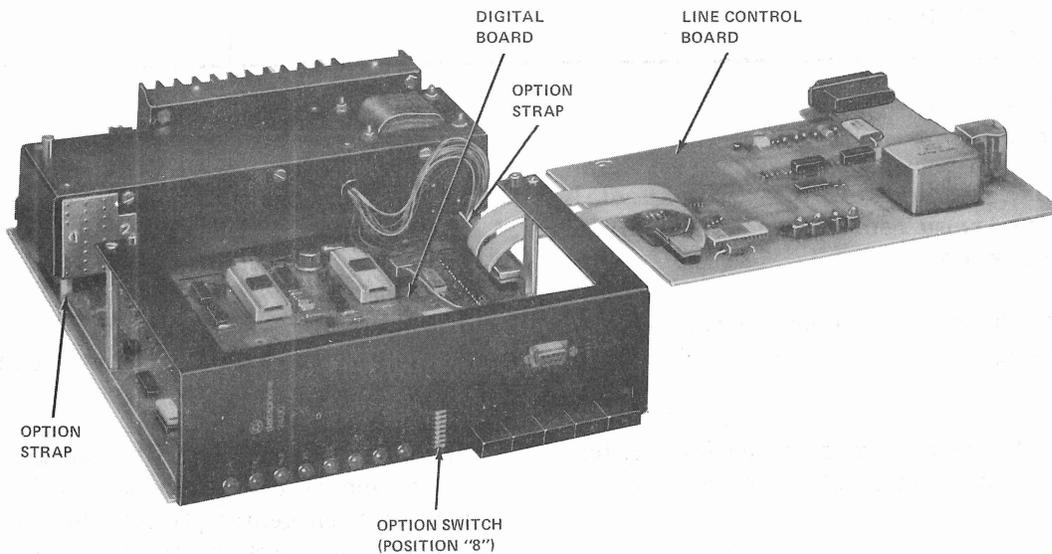

Fig. 2—Data Set 201CR-L1C Unfolded to Show Location of Option Straps
- (3) Loosen two retaining screws at rear bottom of housing.
- (4) Slide data set out front of housing. Refer to Fig. 2 for location of the option straps.